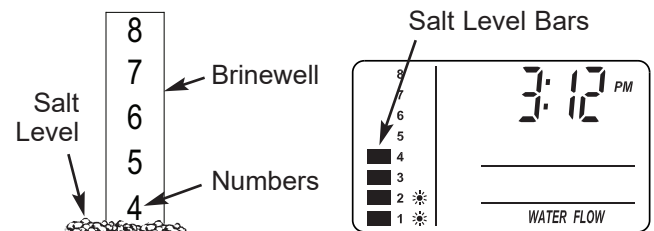

FIG. 24
2. The salt level scale, on the brinewell inside the tank, has numbers from 0 to 8 (see Fig. 24). Observe the highest number the leveled salt is at, or closest to.
3. Press the SET SALT LEVEL button as many times as necessary to make the salt level bars in the display (see Fig. 24) match the number on the brinewell. At level 2 or below, the “Low Salt” light will flash.